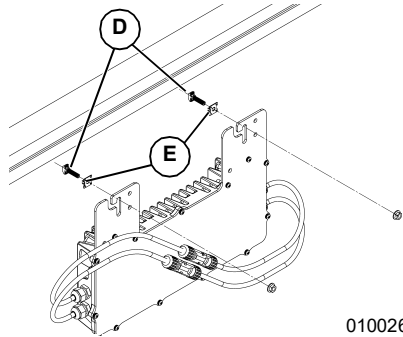

Figure 5-1. Attaching to a Grounded Metal Rail
- See Figure 5-1. Use two rail-compatible fasteners (D) to secure the PV Link to the grounded rail.
- Use a grounding washer (E) between the rail and attachment flange to penetrate the rail's anodized coating.